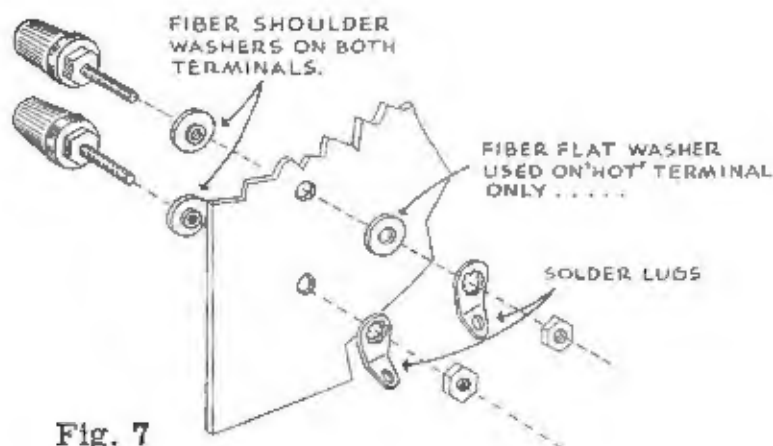

Fig. 7
- () 16. Add the binding posts to the panel, following Figure 7 carefully. The upper post, or "hot" terminal must be insulated from the panel as shown. The fiber washer on the front of the ground post is used only as a spacer.